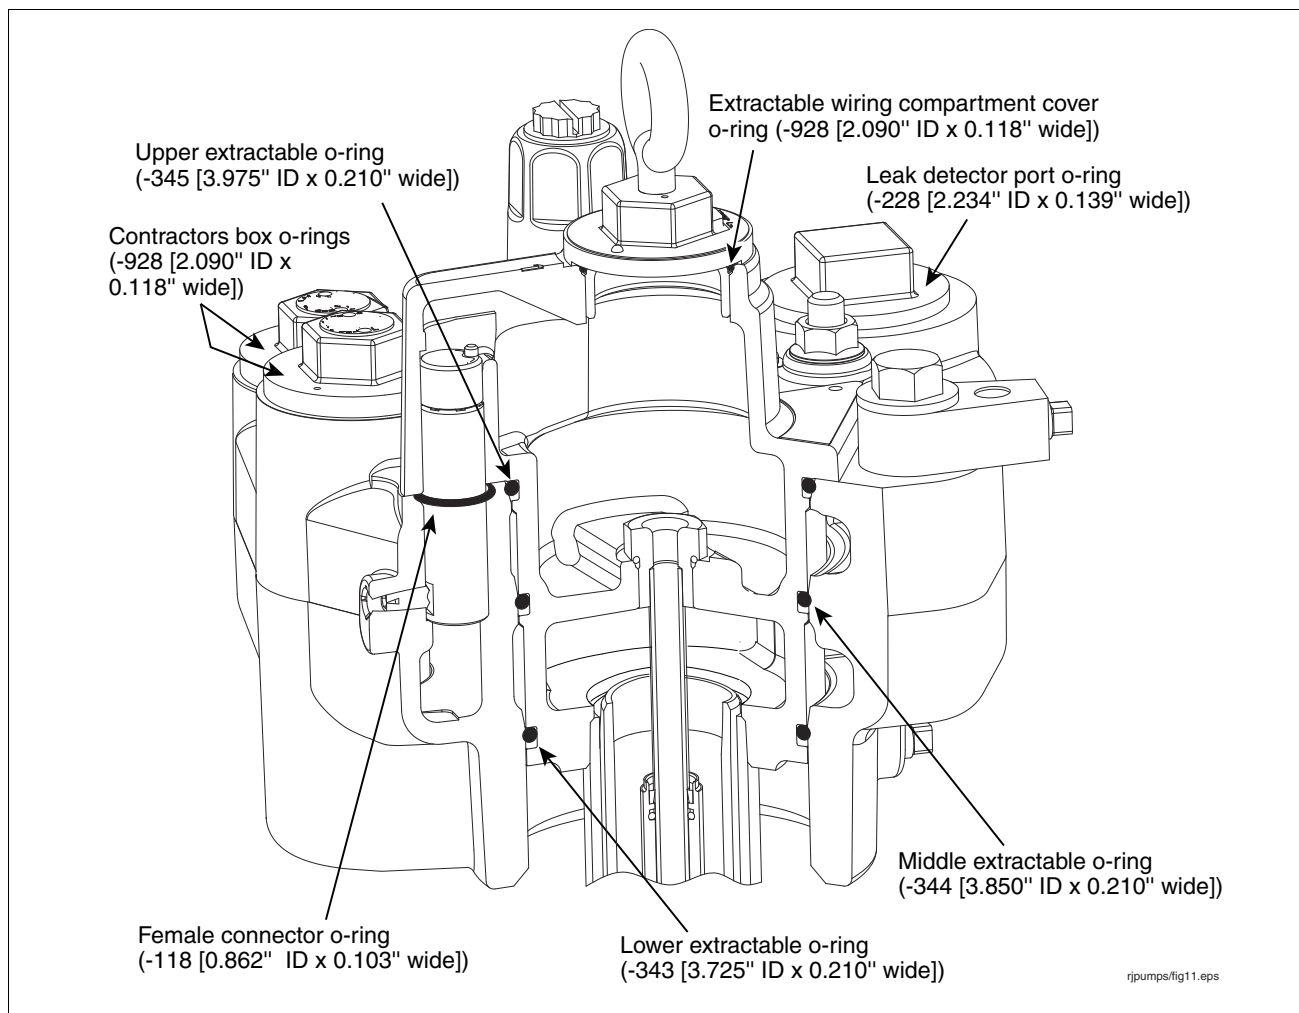

Figure 32. Locating Packer And Manifold O-Rings
9. Get the three extractable o-ring seals (3.975" ID x 0.210" wide [upper], 3.850" ID x 0.210" wide [middle], and 3.725" x 0.210" wide [lower]) from the hardware/seal kit. The three o-rings are very close in size so take extra care to distinguish each one before replacing them in the extractable. Lubricate each o-ring with petroleum jelly and then install them in their assigned grooves in the extractable (see Figure 32).
10. Remove the manifold's female connector's o-ring (see Figure 32). Get a 0.862" ID x 0.103" wide o-ring from the kit and lubricate it with petroleum jelly. Slide the o-ring over the female connector and push it down into its groove.